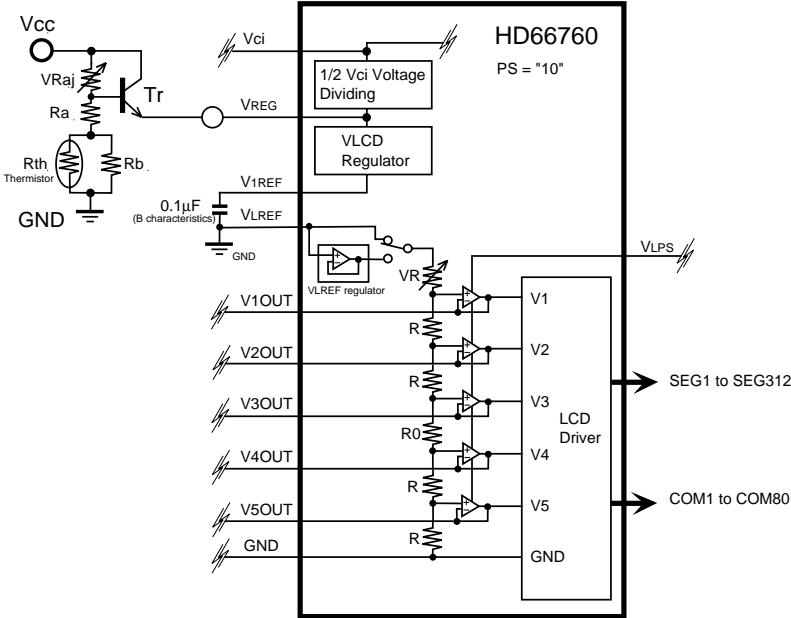

Figure 51 Temperature Compensation Circuits (1)
4. Circuits for temperature compensation should be based on the sample circuits in figures 51 and 52.